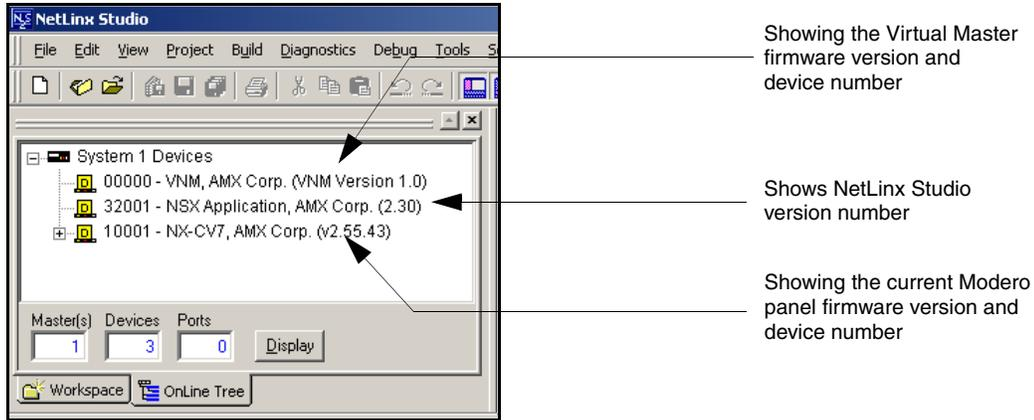

FIG. 71 NetLinx Workspace window (showing the panel connection via a Virtual NetLinx Master)
3. After the Communication Verification dialog window verifies active communication between the Virtual Master and the panel, click the **OnLine Tree** tab in the Workspace window (FIG. 71) to view the devices on the Virtual System. *The default System value is one.*
4. Right-click on the System entry (FIG. 71) and select **Refresh System** to re-populate the list. Verify the panel appears in the **OnLine Tree** tab of the Workspace window. *The default Modero panel value is 10001.*